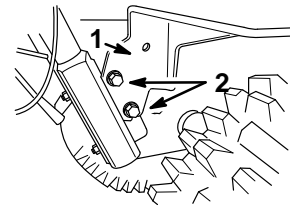

Figure 10
- Mount the rear of the battery mounting plate and handle bracket to the engine frame with two 19 mm (3/4") lg. flange head screws (Fig. 10).